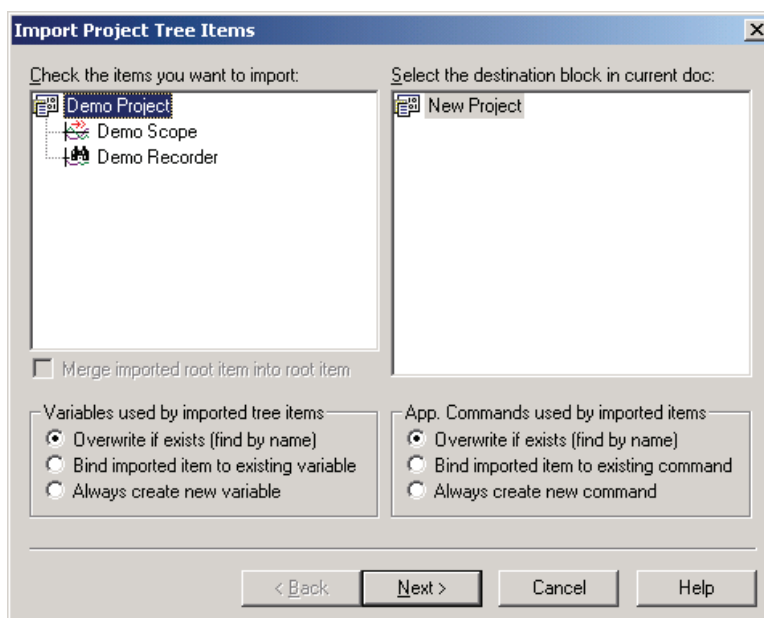

Figure 4-28. Import Project Tree Items
The first dialog of the *Import* procedure is shown in Figure 4-28. After specifying the name of the original project file, you select and check the project tree items you wish to have in your current project. You can also select the target block item under which you want the imported items to be created.
- *Variables* = Put a check mark by each variable you want to import. You don't need to import variables which are referenced from the tree items selected in previous dialog from Figure 4-28; such variables are always unconditionally imported.